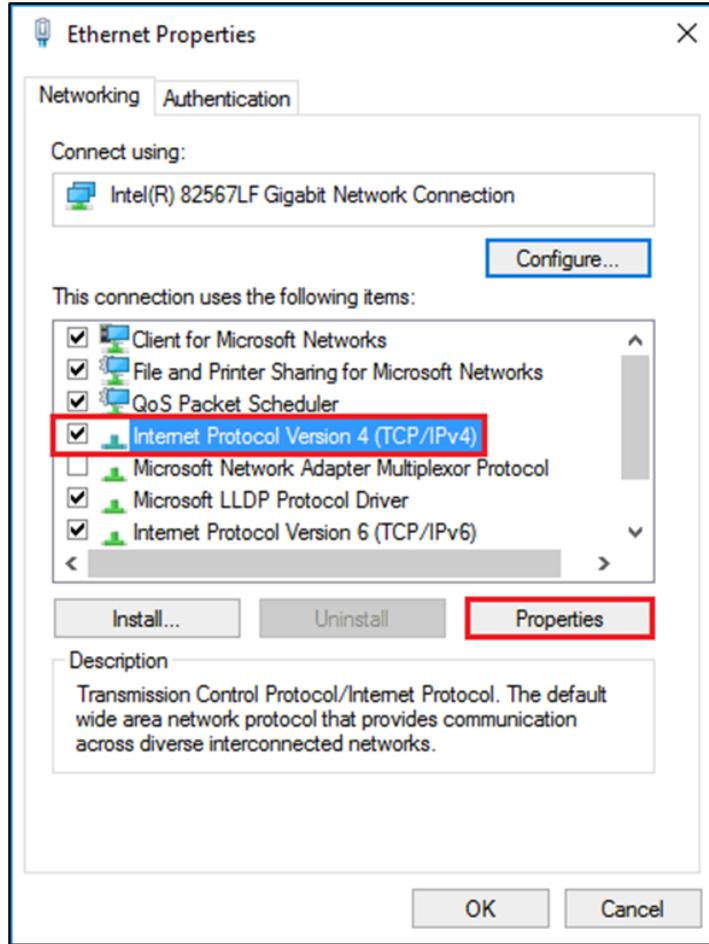

Figure 5: Open the properties menu for the TCP/IPv4 protocol
3. Select Internet Protocol Version 4 (TCP/IPv4) and click Properties (Figure 5).